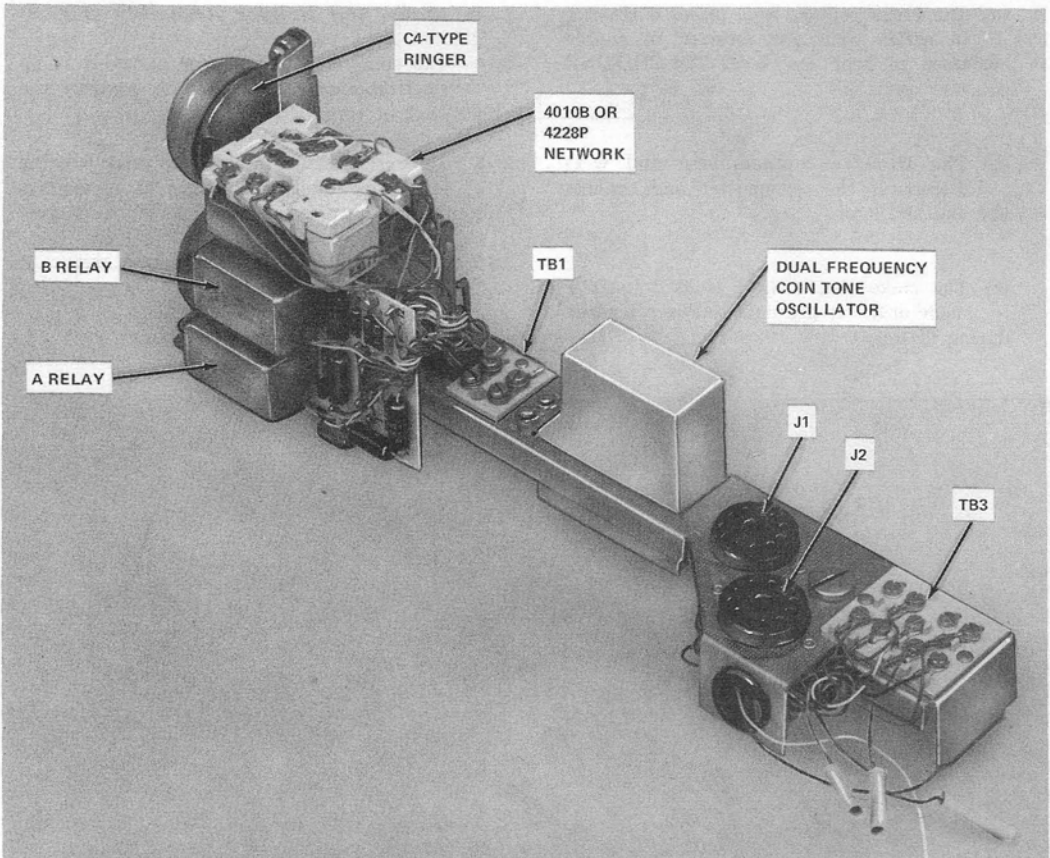

Fig. 6—31A Coin Chassis
- (1) Nickel—1 beep tone
- (2) Dime—2 beep tone
- (3) Pulsing rate—5-8.5 PPS
**Coin Chassis (Fig. 6)**